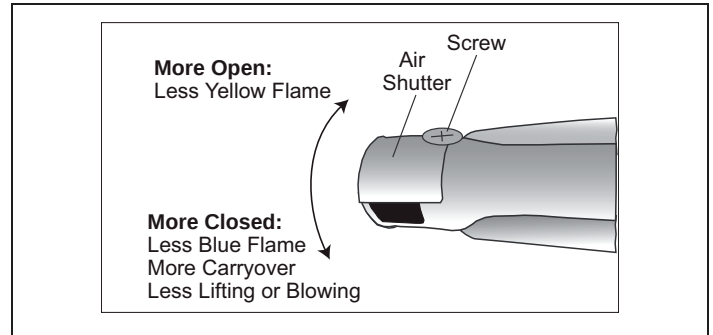

Figure 12: Air Shutter Adjustment (if necessary)
While the bake burner is lit, inspect the flame. See Figure 11 for proper flame characteristics. If the flame burns completely or mostly yellow, it is necessary to adjust the bake burner air shutter. See Figure 12 and the Flame Adjustment procedure in the following section.
Tube-style gas burners used in Thermador appliances have air shutter systems which are similar to the illustration in Figure 12, and can be adjusted using the following method (unless adjustment is not recommended). It is necessary to remove the burner from the appliance in order to perform air-shutter adjustments.
- Adjust the shutter to more-closed position if the flame is lifting or blowing, or is not carrying over. Adjust the shutter to more-open position if the flame is too yellow. (See Figure 12.)
- Flame characteristics checked on all burners, and air shutter(s) on oven bake burner(s) properly adjusted (if necessary). See Figure 11 and Figure 12.